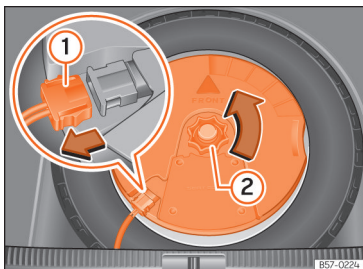

Fig. 192 In the boot: remove the subwoofer.
- Disconnect the subwoofer's speaker cable >>> **Fig. 192 ①**.
- Turn the securing wheel anti-clockwise >>> **Fig. 192 ②**.